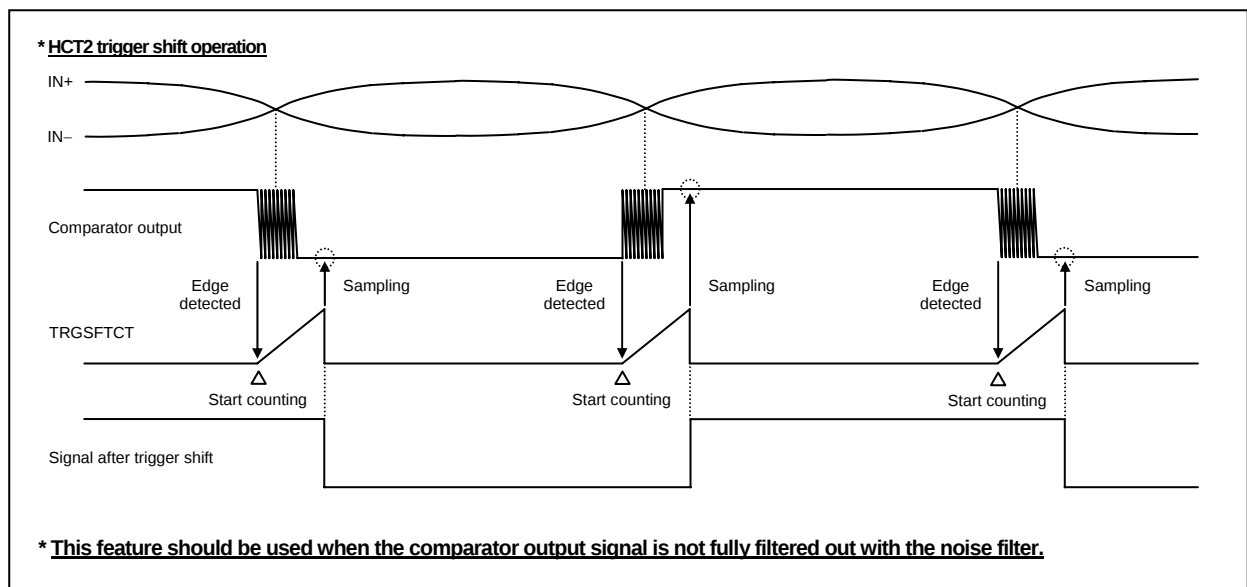

Figure 3.8.3 Sample Input Trigger Signal Shift Operation Waveforms (TRGSFT2 to TRGSFT0 set to a nonzero value)
* This feature serves primarily as a noise filter that is used when switching the analog comparator outputs (see Figure 3.8.3 for details).